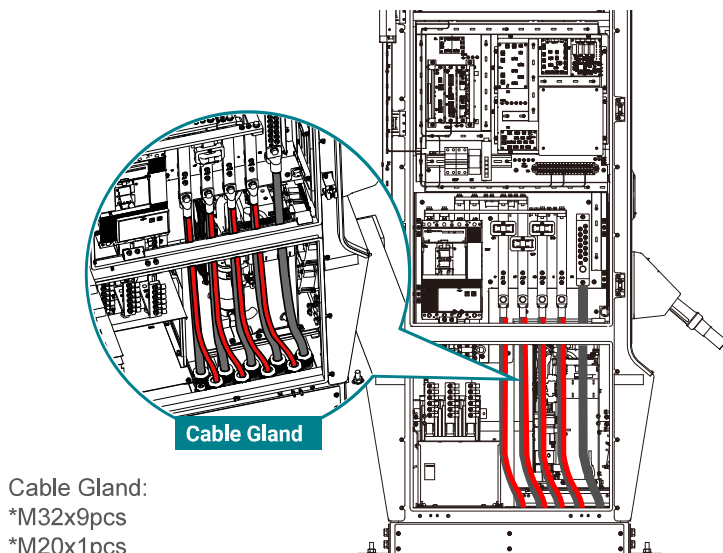

Figure 19. Cable Connection & Cable Gland
- 1) Open the door and remove the protective cover for the wiring. See figure 19.
- 3) Connect AC cables L1, L2, L3 and N to the busbars (see figure 19). Attach each wire and torque the fasteners according to "Appendix B - Torque Requirements Table".
- 5) Make sure you have enough slack in each cable, then fasten the cable grand (if needed) (see figure 19).